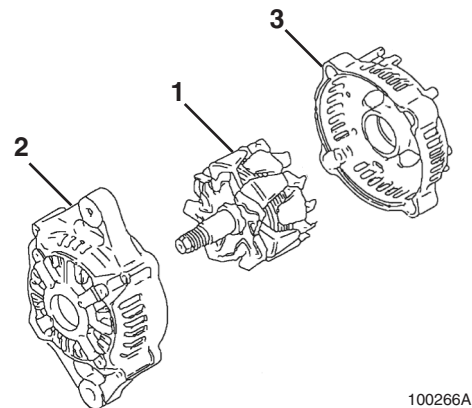
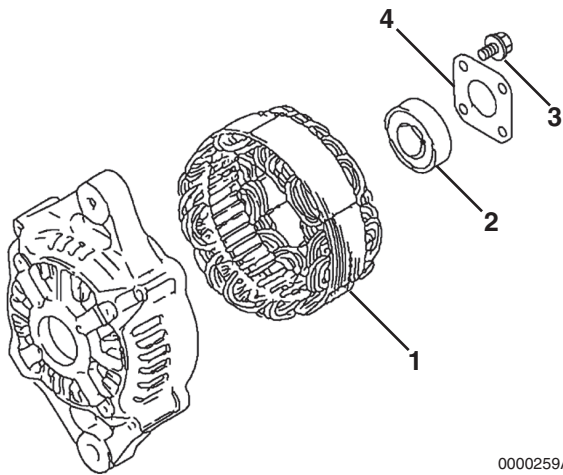

Figure 11-9
Figure 11-10
- Using a press, remove the rotor assembly (**Figure 11-9, (1)**) from the front frame housing (**Figure 11-9, (2)**) and rear frame housing (**Figure 11-10, (1)**).
9. Remove the stator assembly (Figure 11-10, (1)) from the front frame housing.
10. If it is necessary to replace the bearing (Figure 11-10, (2)) in the front frame housing, remove the four bolts (Figure 11-10, (3)) securing the plate (Figure 11-10, (4)) to the front frame housing. Remove the plate. Use a puller to remove the bearing. Discard the bearing.